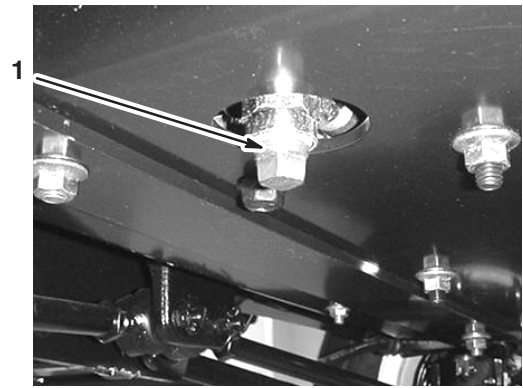

Figure 34
- Remove the drain plug (Fig. 34).